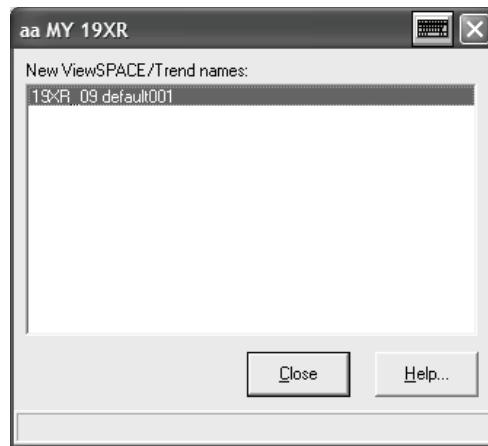

Fig. 23 — Confirmation Prompt
23. A confirmation screen will be displayed of the clone to be made. Press the “Close” button” (Fig. 23).